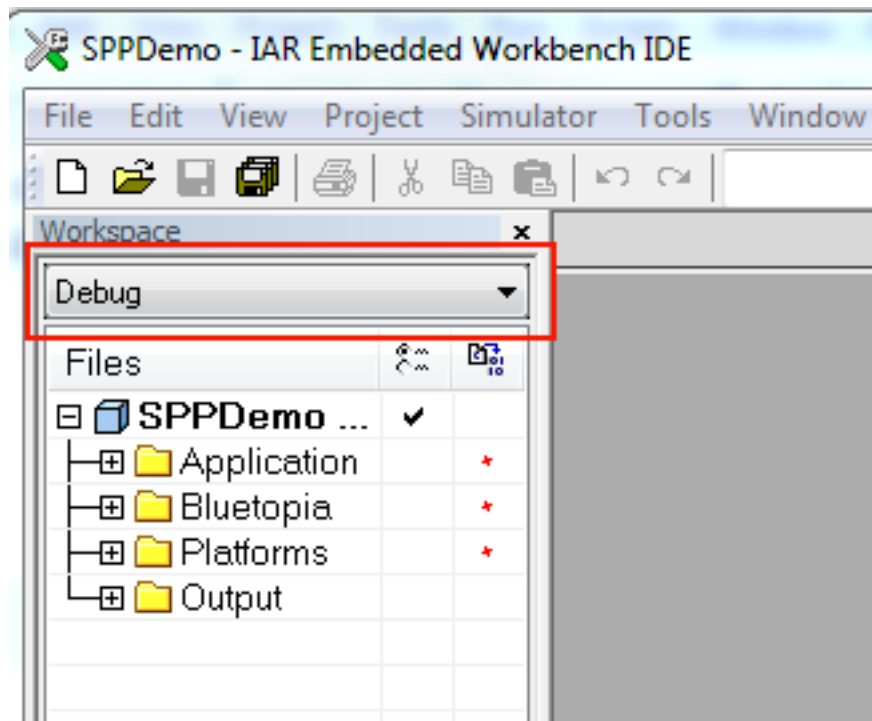

Figure 10. Debug Workspace
5. Select either the *Debug* or *Release* configuration from the drop-down menu (in this example, select *Debug*, see Figure 10).